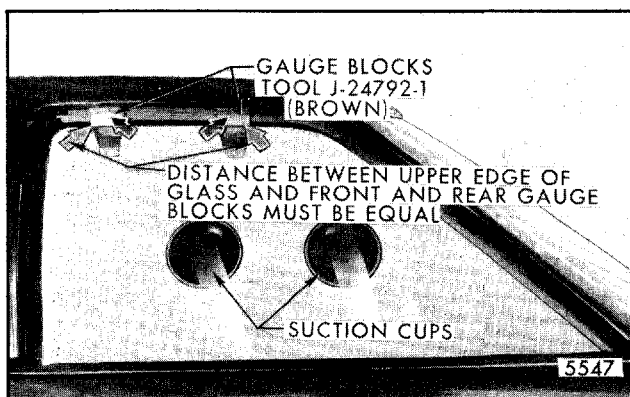

Fig. 5-112-Front Door Window - Rotated Glass Alignment - "A" Styles
2. Lower window and install gauge blocks, tool J-24792-1 (brown) or equivalent, into weatherstrip retainer as shown in Figure 5-112 with handles inboard. Make sure gauge blocks are fully engaged in retainer. Install suction cups on interior glass surface to aid glass adjustment.
4. Parallel Alignment: With door closed, raise window to within 1" of full-up position (Fig. 5-112). If edge of glass spacing to gauge blocks is not equal, adjust inner panel cam ("8").